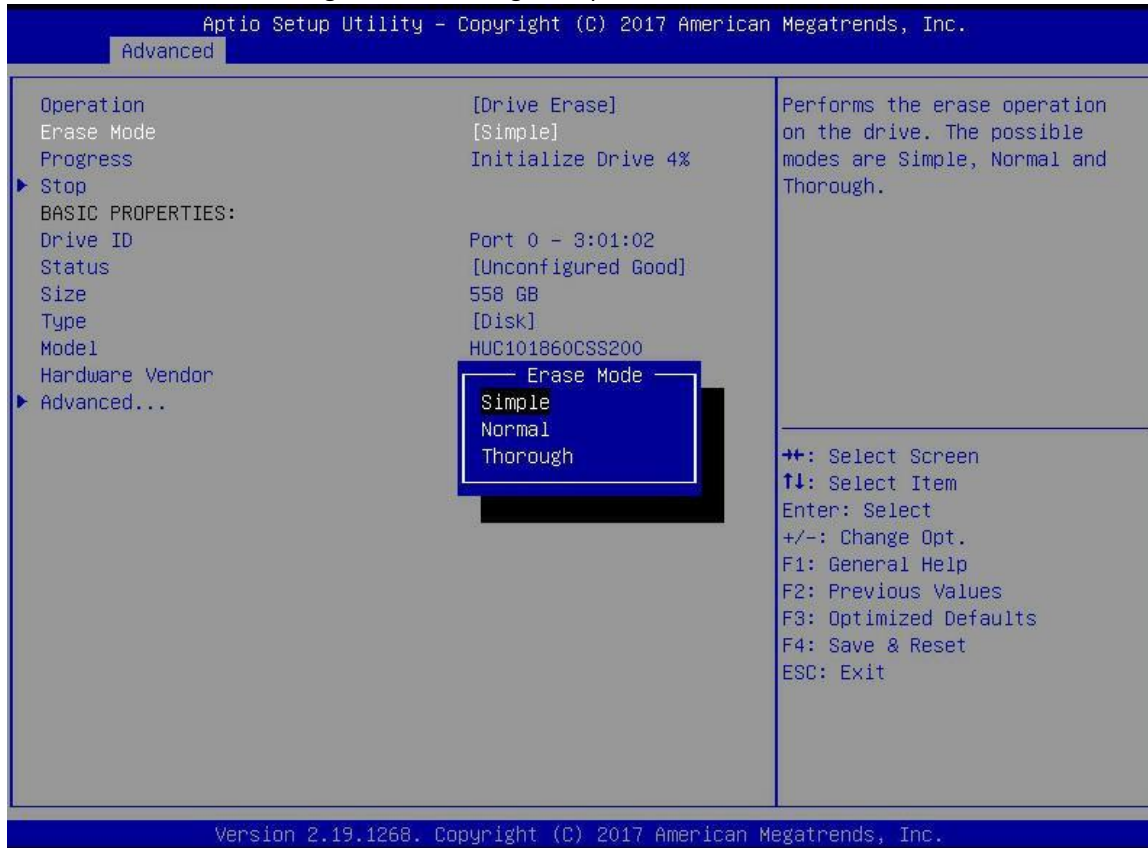

Figure 6-56
- d) Enter the interface shown in figure 6-56, press enter, and then select erase mode in the pop-up dialog box (simple is recommended as the default mode).